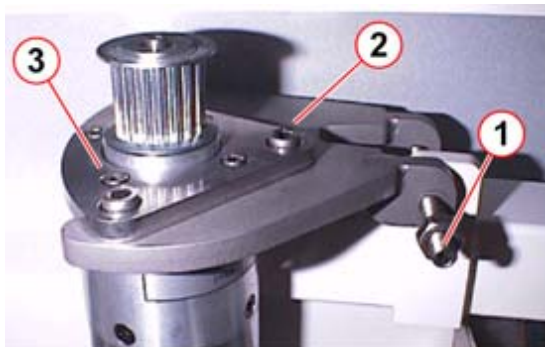

Fig. 30: Swivel plate
- Release lock nut (1/Fig. 30 / p. 32) and the M8 screw.
- Move the swivel plate(2/Fig. 30 / p. 32) upwards to the stop.
- Disassemble the mounting plate (3/Fig. 30 / p. 32) from the swivel plate (2/Fig. 30 / p. 32) (3 x M6 allen screws).
- Remove the mounting plate (3/Fig. 30 / p. 32) from the motor (4 x M4 allen screws).
- Release lock nut \(1/Fig. 30 / p. 32\) and the M8 screw.
- Move the swivel plate \(2/Fig. 30 / p. 32\) upwards to the stop.
You can rotate the toothed belt by 90° with your thumb and index finger. If necessary, adjust the belt tension with the screw M8. (Fig. 30 / p. 32)